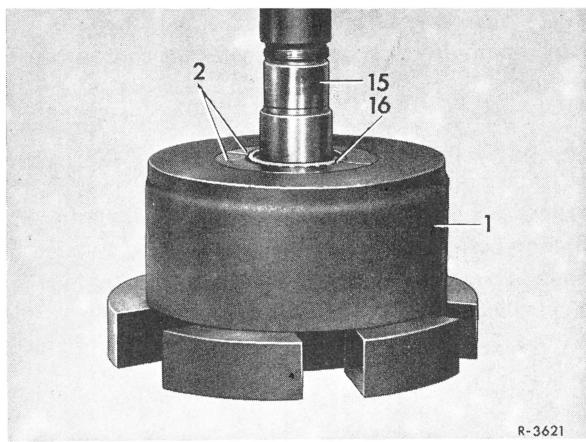

Fig. 10
11 Force outer bearing inner race (16) from rear axle shaft flange (15) (Fig. 10).